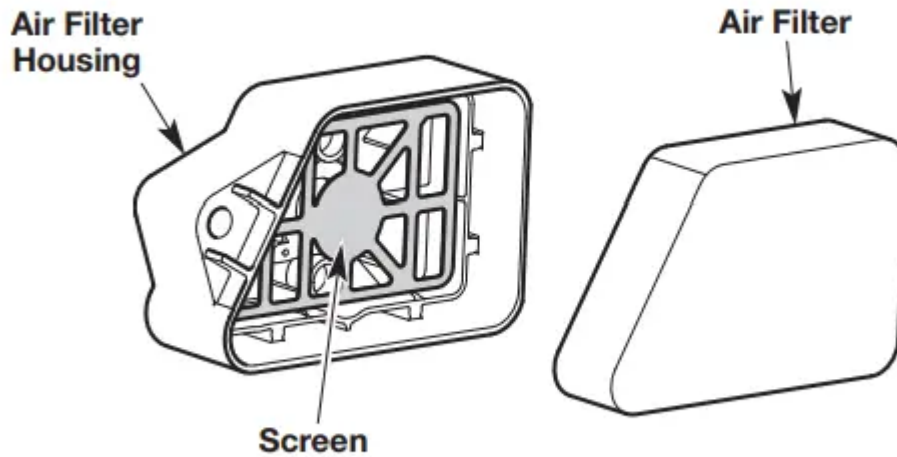

Fig. 18
2. Remove the air filter (Fig. 18).
6. Reinstall the air filter (Fig. 18).
- **NOTE:** Make sure the metal screen is seated in the air filter housing before reinstalling the air filter (Fig. 18).